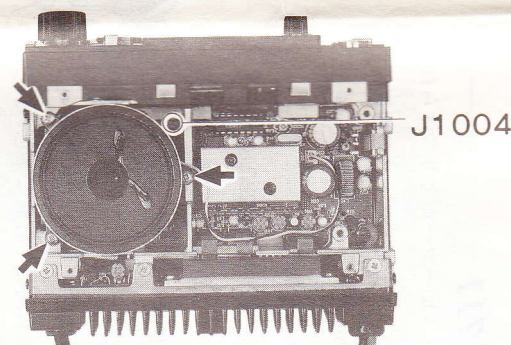

Figure 2
- (2) Lift the loudspeaker out of its holder, and then remove the three screws in the arms of the holder, and lift it out of the chassis (Fig. 2).
- (3) Remove the jumper plug from jack J1004 in the front left corner of the speaker compartment (Fig. 2).